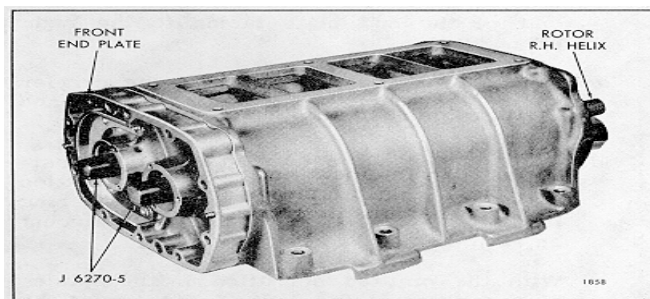

Fig. 18 - Assembling Blower Rotors into Housing and Front End Plate (Lip Type Oil Seals)
- b. Insert the blower rotors with oil seal pilots straight into the blower housing with the right-hand helix rotor at the top, flange, side of the housing. Then, push the rotor shafts and oil seal pilots on through the oil seal in the front end plate as shown in Fig. 18.